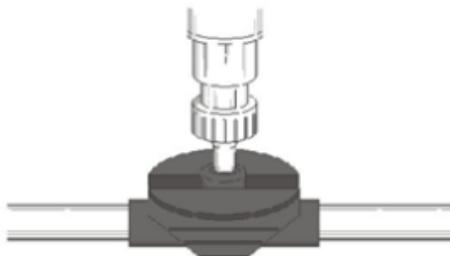

Figure 6b: Split Septum Injection Site insertion technique
- Insert appropriate needle or plastic needle into the center of the injection site at 90 – degree angle as shown on Figure 6b.